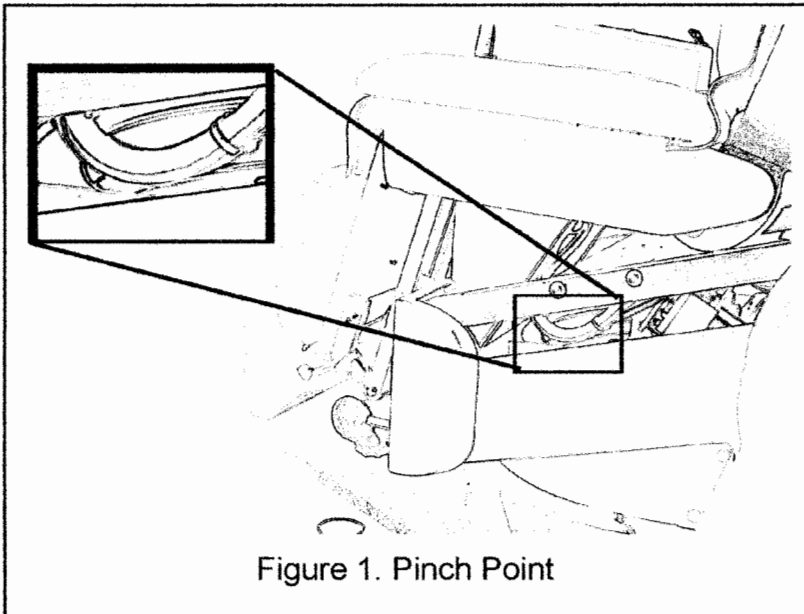

Figure 1. Pinch Point
13. Position the ribbon cable so the new splice is away from the point in Fig. 1. You will have to take some slack from the control box end of the cable.